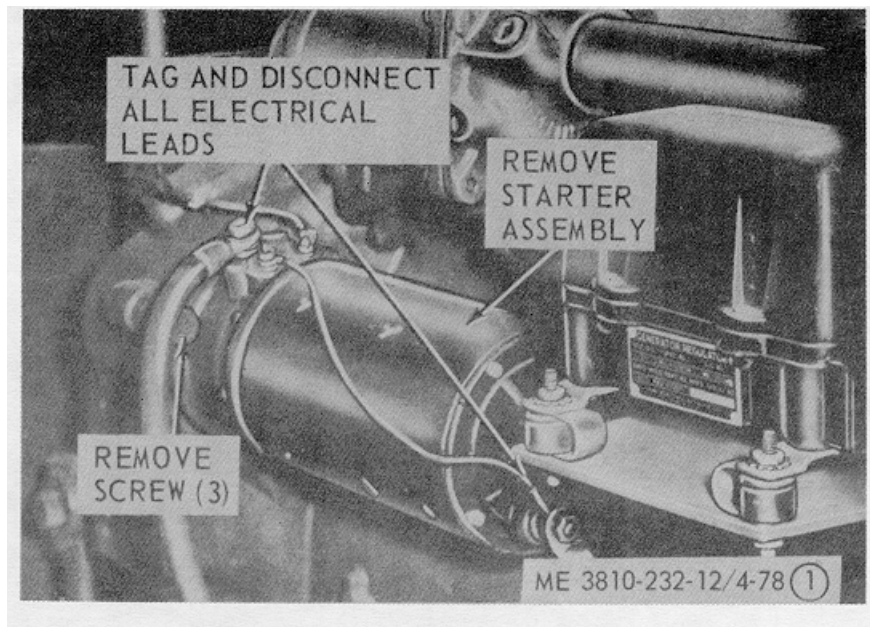

Figure 4-78. Crane engine starter and solenoid, removal and installation. Sheet 1 of 3.
(1) Remove starter and solenoid as illustrated in figure 4-78.